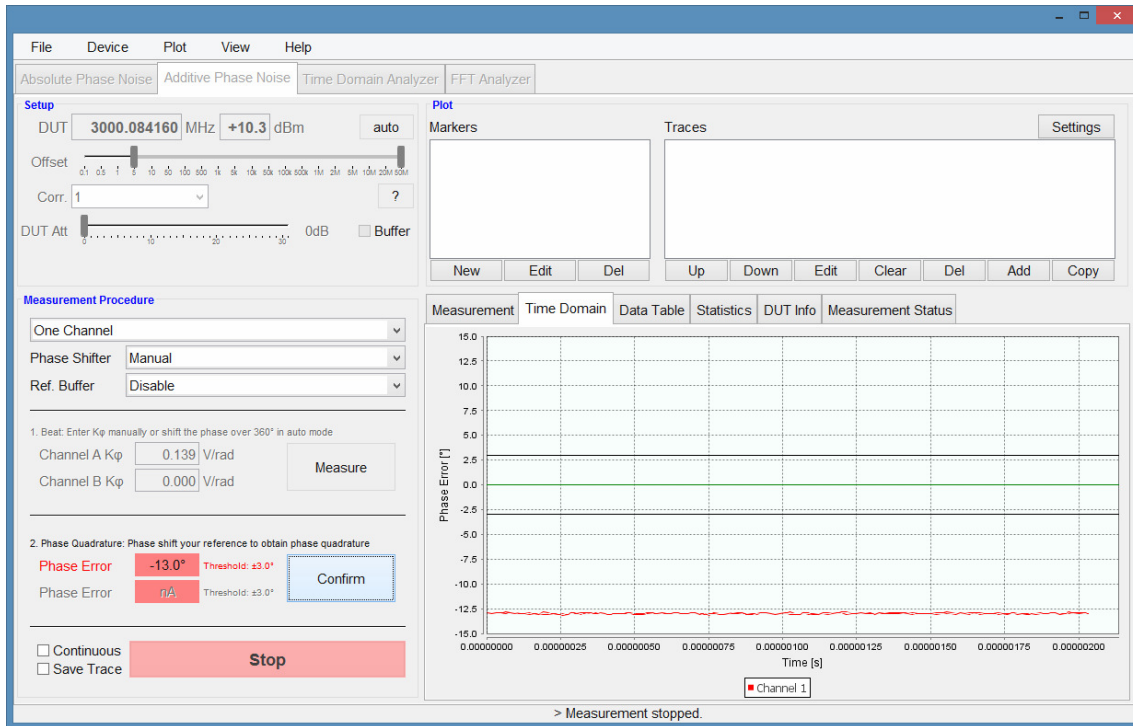
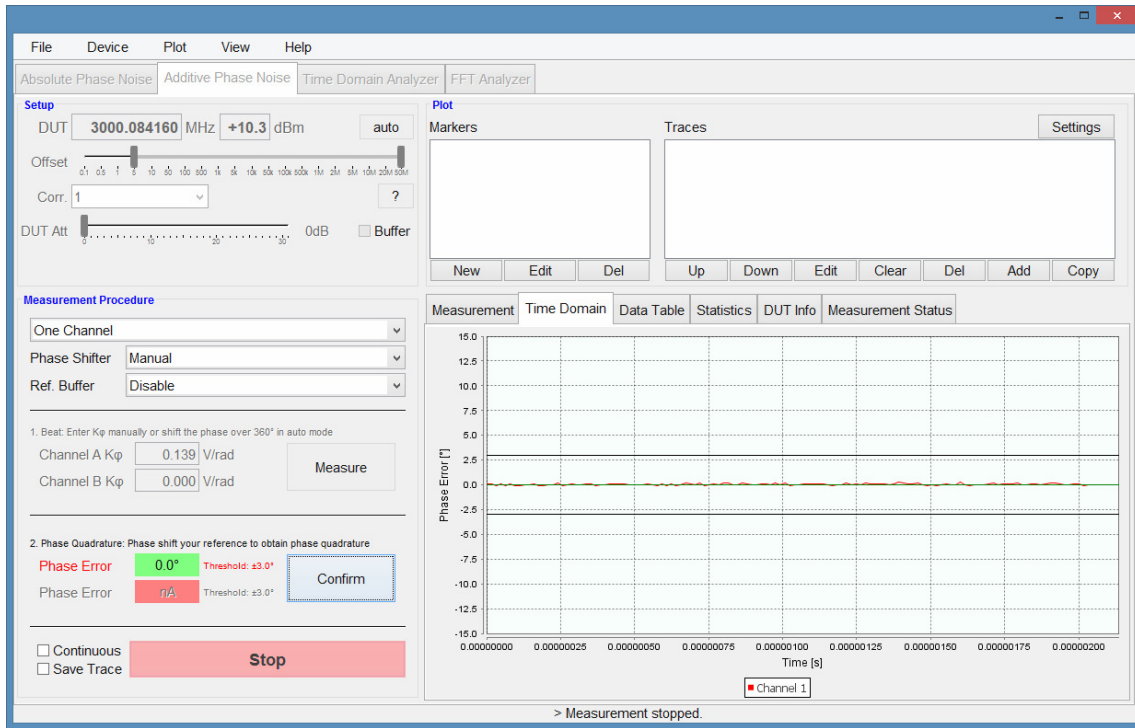

Figure 5: Adjusting to Phase Quadrature Using Phase Shifter
Figure 6: Quadrature Achieved within Accepted Tolerance Range
4. In a next step, the signals at the phase detector are adjusted to quadrature (90° phase shifted in respect to each other) using the phase shifter (refer to Figure 5 above and Figure 6 below). Clicking on the second “Measure” button will continuously show the current phase error which has to be reduced to 0° by phase shifting the reference. Once the phase error is minimized, complete the calibration step by clicking on the second “Confirm” button.